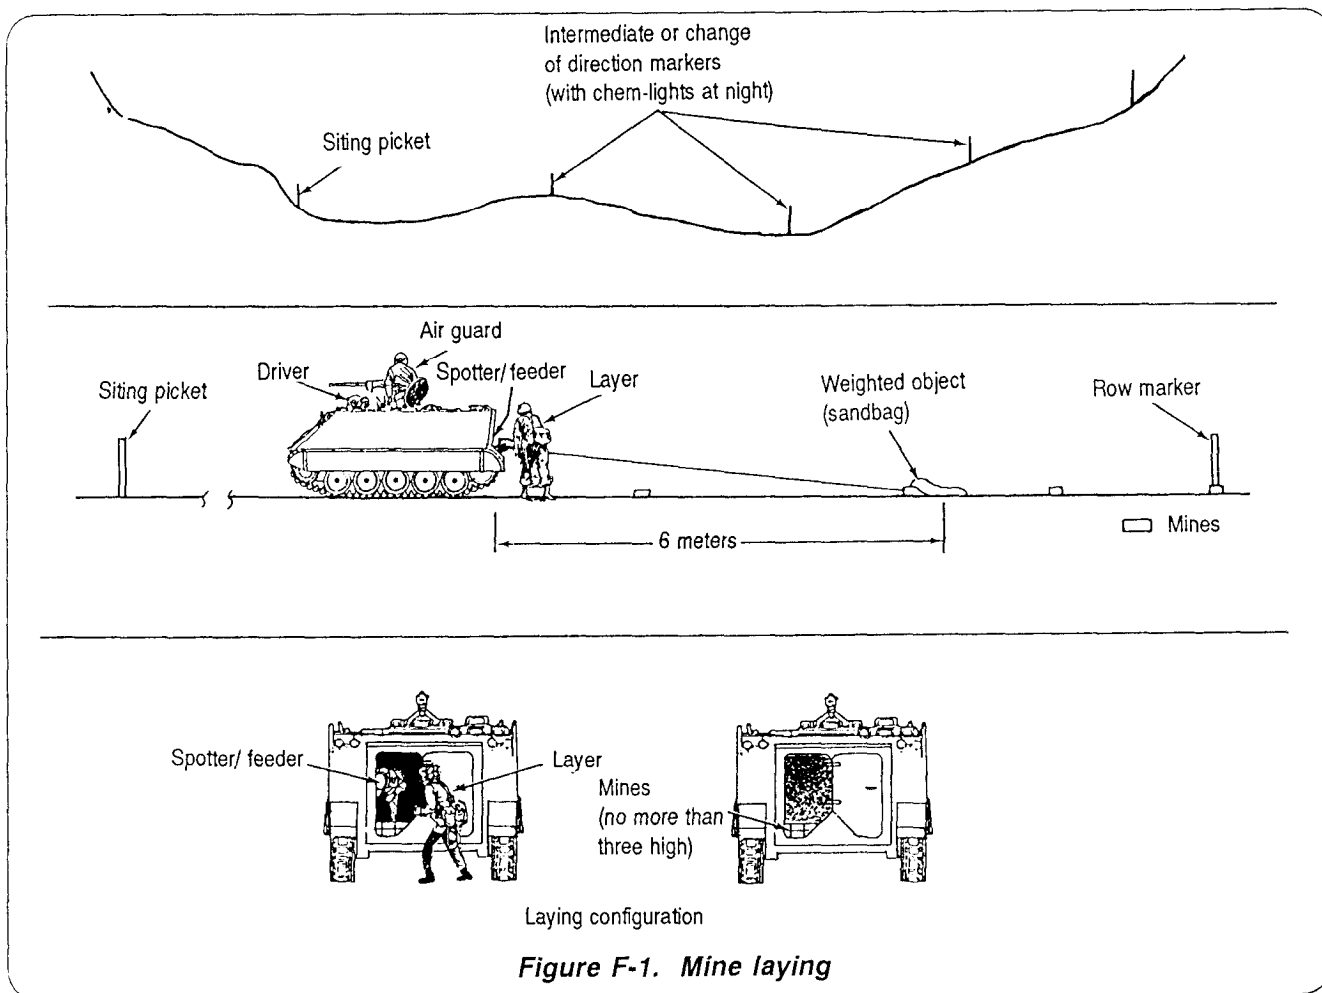

Figure F-1. Mine laying
- Each carrier has three soldiers inside—one driving, one manning the .50 caliber machine gun (for security), and one inside handing the mines out the rear door (or inside the trailer handing out the back). Another soldier walks behind the carrier and places the mines on the ground (see Figure F-1).